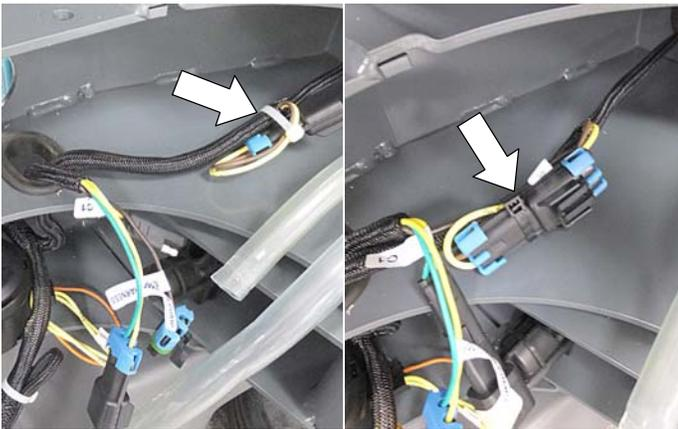

Fig. 17
- Locate the factory installed plug connector wire-tied to machine harness as shown. Cut wire-tie and connect the main harness connector (B) into machine harness (Figure 17). Secure with wire-tie.